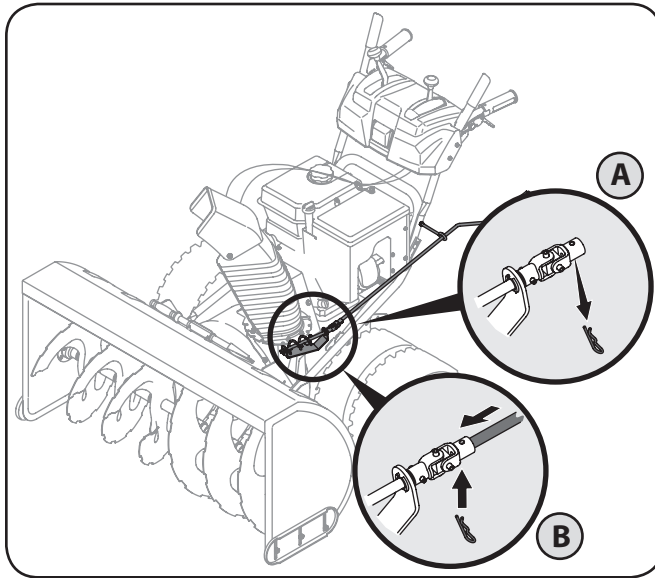

Figure 3-4
1. Remove the hairpin clip from the spiral control as shown in A of Figure 3-4.
2. Insert the chute directional control rod into the fitting on the spiral control as detailed in B of Figure 3-4.